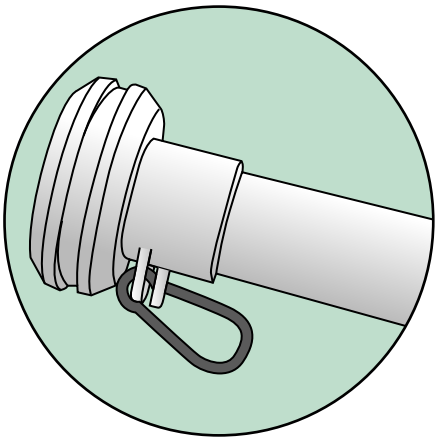

Fig 1
- 1, Ensure clip is connected to the top fixing (see Fig 1).